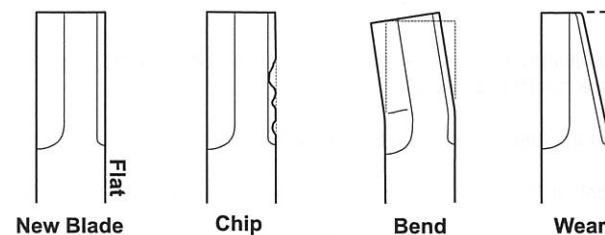
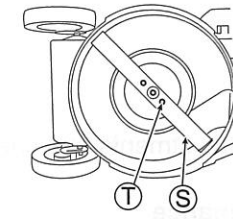

Fig. 34
Fig. 35
- Confirm that there is no chip, bend, or wear with Blade (S). (See Fig. 34)
- If Blade (S) or its mounting bolts (T) are "worn", "broken" or "deformed", exchange with new one(s) specified by us.
- Confirm that Blade mounting bolts (T) are tightened by the specified torque. (See Fig. 35)
- Fully tighten Blade mounting bolts (T) with hand.